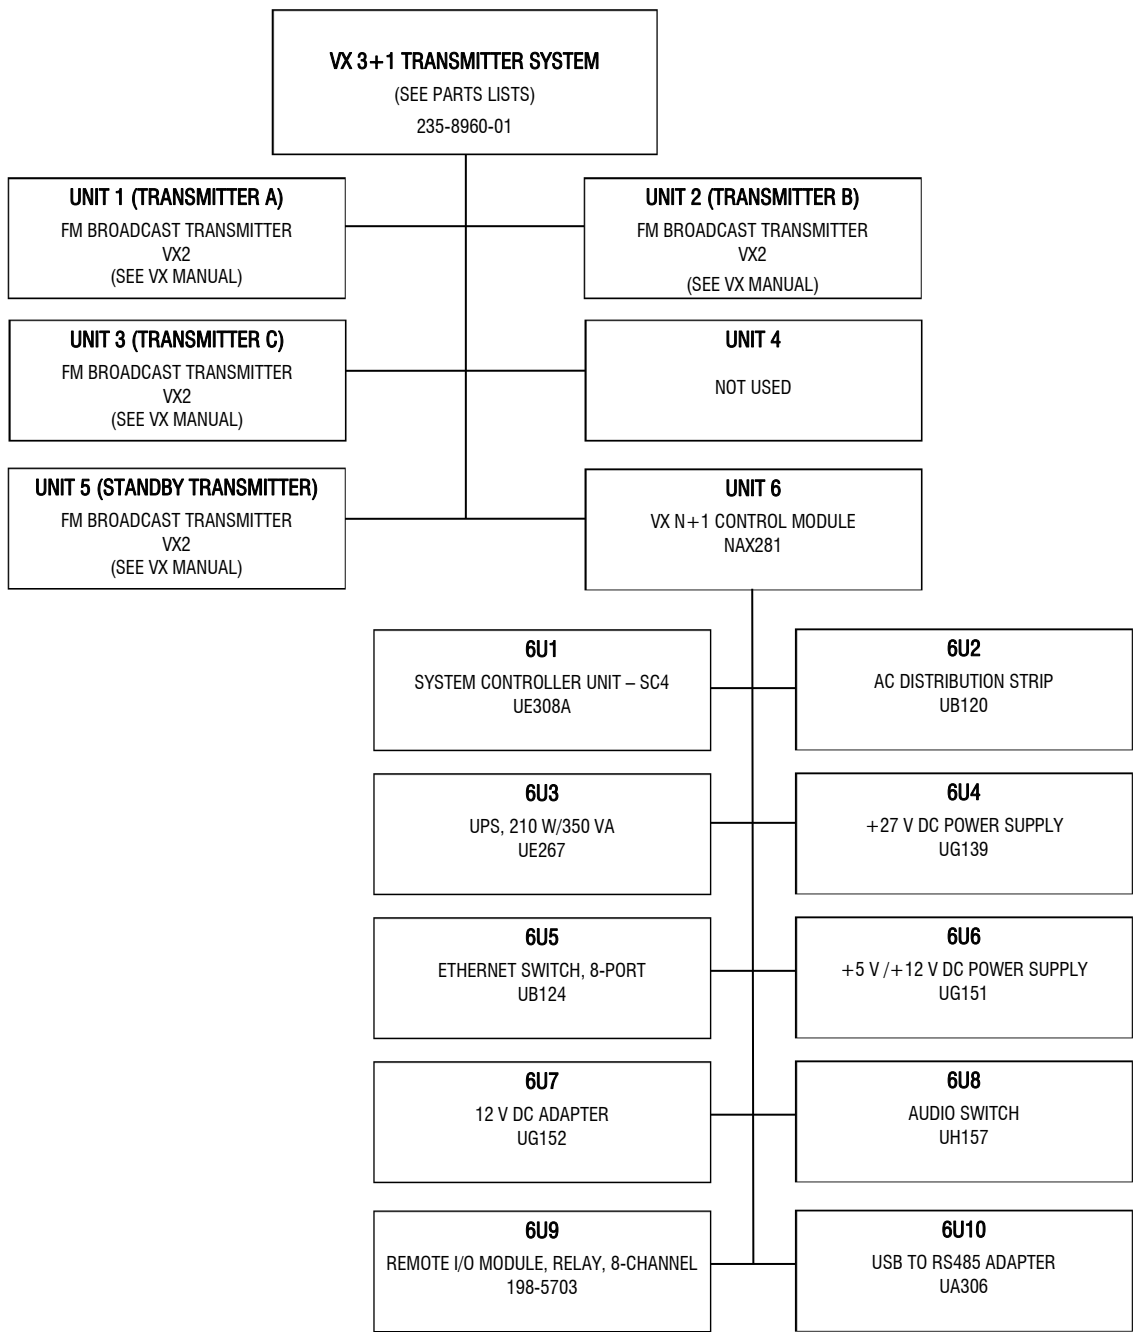

Figure 6-1 – Family Tree – VX 3+1 Transmitter System
- Refer to the Family Tree depicted in Figures 6-1 through 6-3 with the full reference designation.
To obtain the full reference designation for a specific part, the Nautel configuration control number must be located in the family tree (Figures 6-1 through 6-3) to include the reference designation of all higher-level assemblies. The reference designation lists are presented in alphanumeric order for each component level of the system and are divided into columns to aid in locating specific information.
This number represents the level of a component in relation to the highest-level parts list. In this case the highest-level parts list is the Main/Standby System's overall parts list, or the top block in the family trees shown in Figures 6-1 through 6-3.